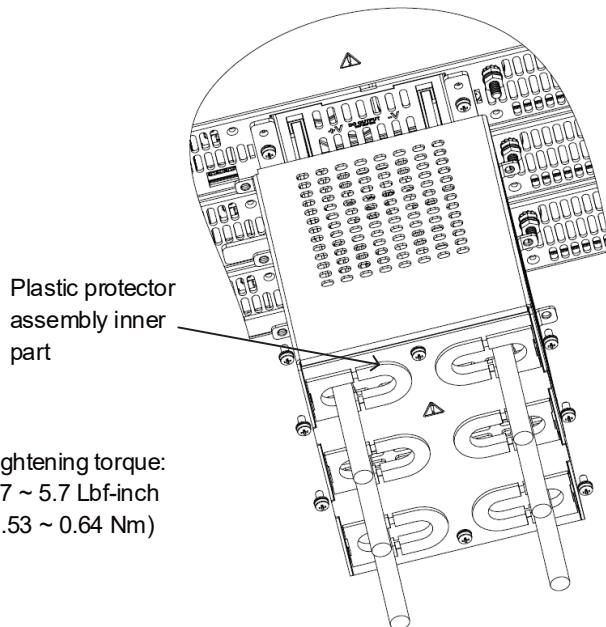

Figure 4-68: Assembly of 50V - 100V Wires Protection Cover
3. Assemble the bus bars protection assembly to the rear panel of the power supply, by using 6 M3x6 Sems screws, as shown in Figure 4-68 (15kW is shown, it applies to 10kW as well. For 10kW, there are 4 screws only).
In case thicker wires are required, separate the plastic protector assembly and install only the inner part, refer to Figure 4-68 and Figure 4-52.